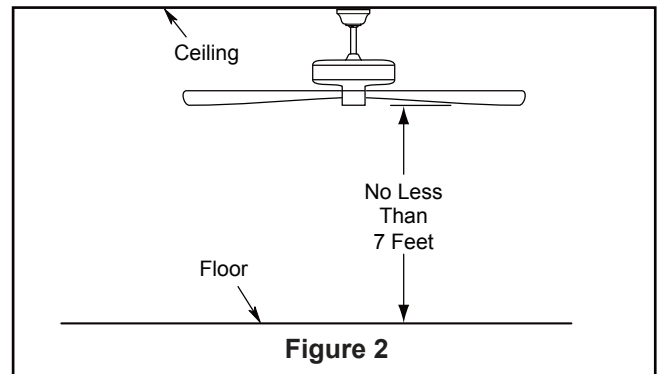

Figure 2
- 2. Remove the two set screws and locking nuts in the downrod support of the motor assembly and retain for reinstallation in Step 4 of the How to Assemble Your Ceiling Fan section, Page 8. Remove the six screws at the top of the motor assembly and retain them for next step. (Figure 2)
- 2. Remove the hairpin clip and clevis pin from the bottom of the downrod. Retain the pin and clip for reinstallation in Step 4. (Figure 2)
The fan must be hung with at least 7' of clearance from floor to blades. (Figure 2)